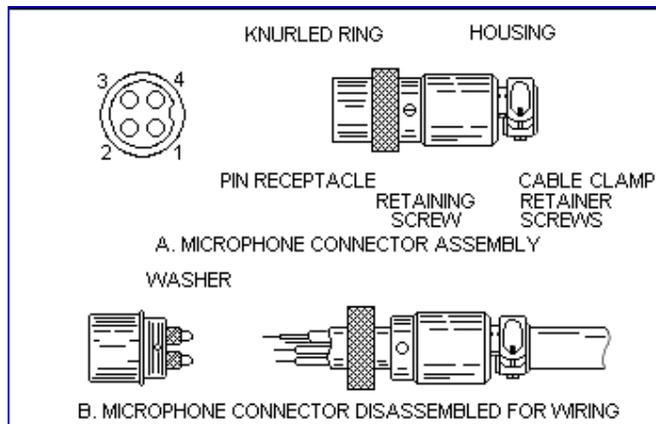

Figure 2-4 Microphone Plug Wiring
- (iv) Feed the microphone cable through the housing, knurled ring and washer as shown Figure 2-4.